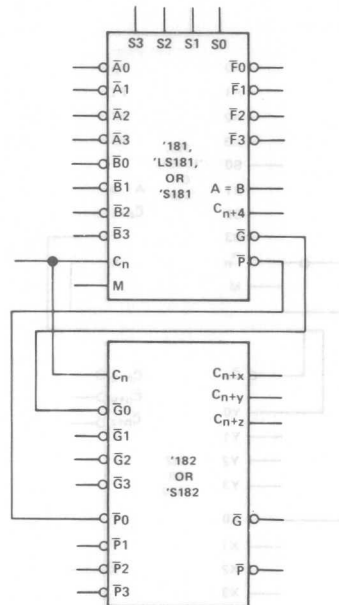
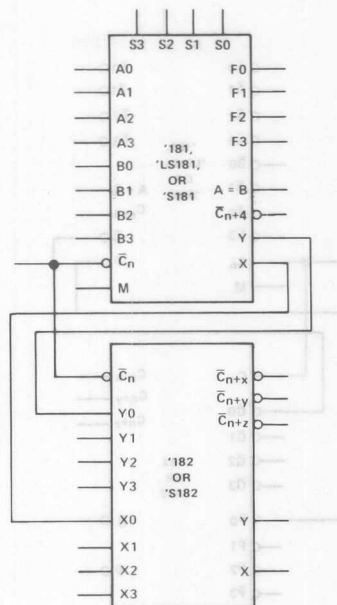

FIGURE 1
FIGURE 2
The '181, 'LS181, and 'S181 together with the '182 and 'S182 can be used with the signal designations of either Figure 1 or Figure 2. The inversion indicators (O) and the bars over the terminal letter symbols (e.g., C̄) each indicate that the associated input or output is active with respect to the selected function of the device when that input or output is low. That is, a low at C̄ means "do carry" while a high means "do not carry".
The logic functions and arithmetic operations obtained with signal designations of Figure 1 are given in Table 1; those obtained with signal designations of Figure 2 are given in Table 2.